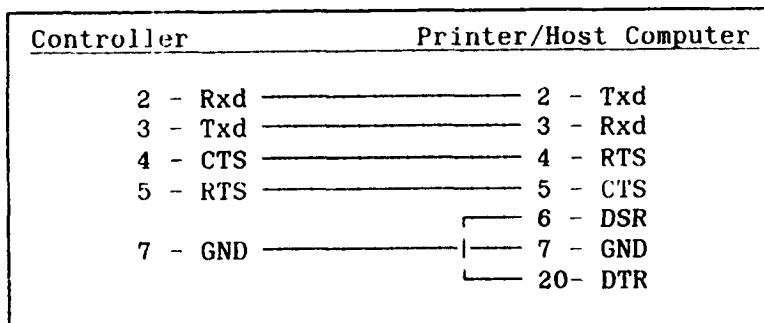

FIGURE 3-6 Printer Cable pin-out
Normally the printer would be connected to serial Device #1 on the rear panel. The pinout for the connection is shown in figure 3-6. Install the printer as follows:
- 1) Connect cable between printer and controller with the pinouts shown in figure 3-6.